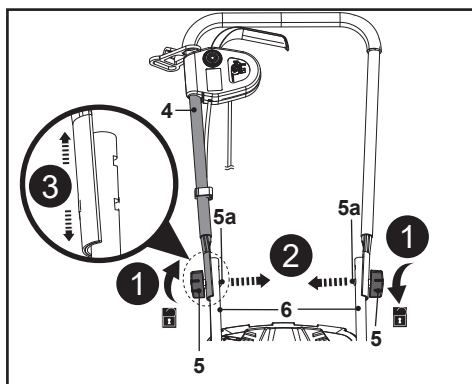

Fig 9
1. Hold the upper handle bar (4) with one hand.
2. Unscrew the lock knob (5) in an anti-clockwise direction, then take off the lock knob (5) and mounting bolt (5a) afterwards (Fig. 9, steps 1, 2).
3. Choose the other mounting hole of the lower hand bar (6) to assemble the upper handle bar (4) for desired handle height (Fig. 9, step 3).